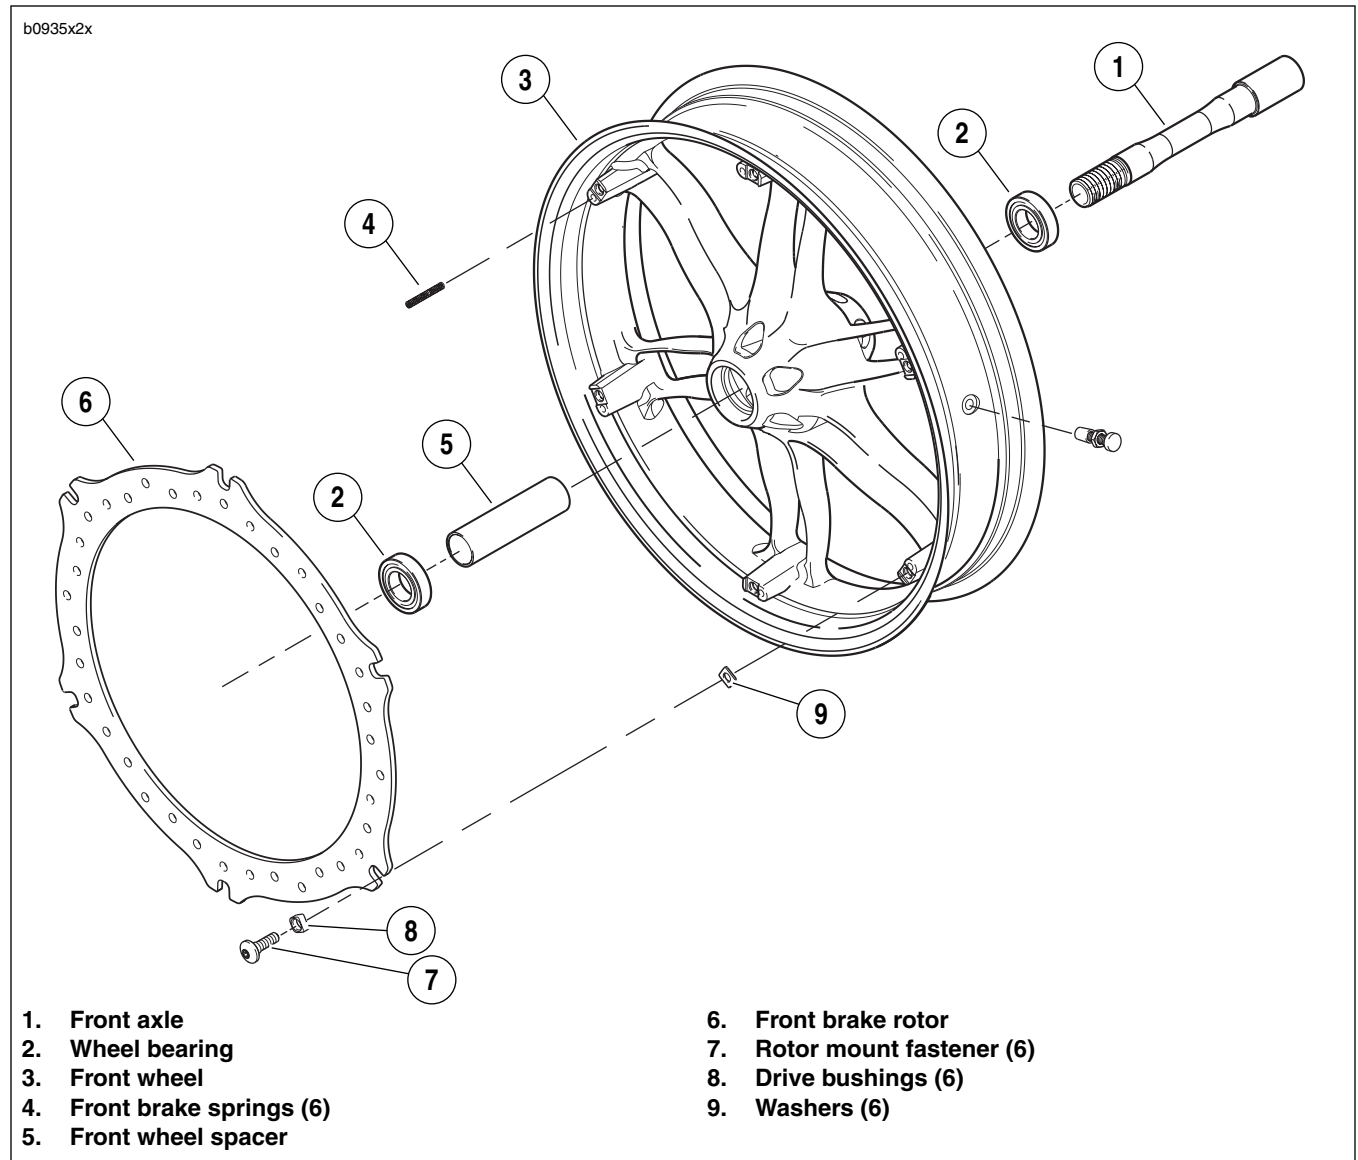

Figure 2-18. Front Wheel Assembly
1. See Figure 2-18. Remove and discard rotor mounting fasteners (7).
2. Remove and inspect brake rotor (6) for wear and warping. See 2.12 FRONT BRAKE CALIPER.
3. Remove drive bushings (8) and discard.
4. Remove washers (9) and discard.
5. Remove front brake springs (4) and discard.
1. See Figure 2-18. Install spacer (5).
2. Install **new** wheel bearings (2) into hub using suitable driver. Press on outer race only.
1. See Figure 2-18. Install **new** springs (4).
2. Install **new** washers (9).
3. Install **new** drive bushings (8) into rotor.